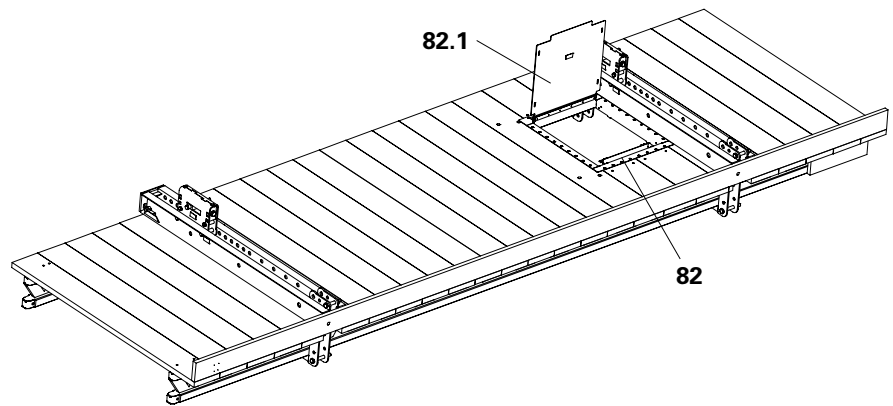

Fig. B1.13a
1. Place Hatch RCS 55 x 60-2, foldable (**82**) in the prepared recess. The opened hatch cover (**82.1**) points towards the wall side. (Fig. B1.13a)